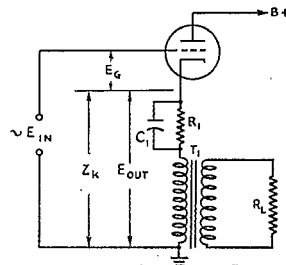
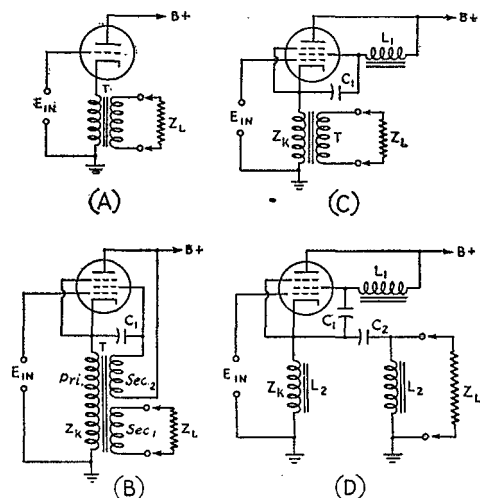
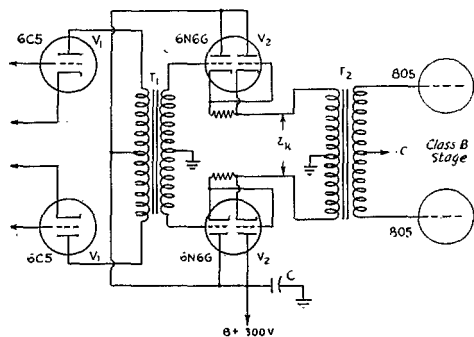

Fig. 1 — Triode cathode-follower power amplifier.
Fig. 2 — Single-ended stages with cathode coupling.
Fig. 4 — Cathode-coupled push-pull triode stage.
For an explanation of the amplifier characteristics referred to above, let's examine Fig. 1. This is the simplest type of cathode-follower power amplifier. In this circuit R_1 is used to supply additional bias since the d.c. resistance of the output transformer primary is generally too low to provide adequate bias. Condenser C_1 is of such a value that its reactance is negligible at the lowest frequency. If this is so, then the cathode impedance, Z_k , will be the primary impedance of the transformer T_1 . This impedance will, of course, be a complex impedance, but over the mid-frequency range may be considered as resistive. Assuming that a signal in the mid-frequency range is applied, on the positive half of the cycle the grid is driven positive which increases the plate current. This current flowing through the cathode impedance will produce a voltage drop making the cathode more positive with respect to ground. With respect to ground, the cathode and grid voltages are in phase. The effective driving voltage, however, is the voltage between the grid and cathode, labeled E_o , and, since E_{in} and E_{out} have the same polarity with respect to ground, they are effectively in series across the grid-to-
It is this feature which provides good frequency response with poor-quality transformers. For example, a common way of reducing the cost of a transformer is to reduce the number of turns. This results in lower inductance and poor low-frequency response. However, in the cathode-follower circuit, the decreasing impedance of the transformer primary with a decrease in frequency which results from the decreasing reactance of the primary inductance, causes the phase of the output voltage to change with respect to the input voltage. Thus the cancellation will be less and E_g will increase, causing the tube to be driven harder. For an explanation of the good-regulation feature, reference again is made to Fig. 1. With E_{in} constant, any tendency for E_{out} to rise, as might accompany the sudden removal of the load, would reduce E_g , and this in turn would reduce E_{out} , thus tending to stabilize the output voltage for any given input voltage, regardless of any decrease in load from full load. This regulation also can be seen from the formula for voltage gain of a triode cathode-follower. The voltage gain is
Thus far the discussion has been devoted to the use of triodes. Pentodes or beam tubes also may be used and are even superior to triodes. Their use requires an additional provision to keep the cathode and screen at the same a.c. potential so that true pentode operation may be secured. In a conventional amplifier the screen grid is bypassed to ground, as is usually the cathode. The screen therefore is maintained at a constant d.c. potential above the cathode but they are both at effective a.c. ground potential. The input signal then causes the plate voltage to vary up and down while the cathode and screen voltages remain fixed. In a cathode-follower circuit, however, the plate voltage remains constant and the cathode rises and falls in accordance with the input signal. Thus, if true pentode operation, and as a consequence full power output, is to be obtained, the screen grid must be made to rise and fall with the cathode. Two methods of accomplishing this are shown in Figs. 2 (B) and 2 (C). Fig. 2 (B) makes use of a special transformer, T , with a third winding, labeled Sec_2 . This winding has the same number of turns as the primary, $Pri.$, and is connected so that the screen and cathode voltages are in phase. It can be readily seen that if Sec_2 and $Pri.$ have the same number of turns, there will always be a fixed voltage difference between the screen and cathode. This voltage difference will be equal to the d.c. voltage applied to the screen. The condenser C_1 is added to make negligible any variation in the transformer construction and to insure zero phase difference between the two voltages. Its value should be large so that the reactance is small at the lowest frequency. In Fig. 2 (C) the same
Four types of single-ended cathode-follower power-amplifier circuits are shown in Fig. 2. No provision for d.c. bias is shown since this may be added in a similar manner to that shown in Fig. 1. Fig. 2 (A) uses a triode and has been fully covered in the foregoing discussion. Although Figs. 2 (B) and 2 (C) are shown using pentodes, the circuits are equally applicable to beam tubes. The difference between these two circuits is the manner in which true pentode operation is obtained. The gain and power output is the same for both. Since tube data usually give the transconductance instead of the μ for pentodes, the following formula is to be preferred in calculating the gain of single-ended pentode or beam-tube cathode-followers.
How this knowledge of the gain is made use of will be covered in more detail in the design section which follows. Fig. 2 (D) utilizes a single-section high-pass π filter as the coupling network. Again a pentode has been used for illustrative purposes, although a beam or triode tube might be used as desired. The gain is calculated from Eq. (4) and Z_k may be assumed to be equal to Z_L . In designing this coupling network, F_c , the cut-off frequency, is chosen to be slightly lower than the lowest frequency it is desired to pass, and the capacity of C_2 is given by
The push-pull versions of the circuits in Fig. 2 are shown in Figs. 4, 5, 6, and 7. Fig. 4 uses a pair of 6N6Gs to represent the triode-type of cathode-follower. The 6N6G actually is two triodes con-
The design procedure for the triode cathode-follower stage in Fig. 4 starts with the selection of the Class-B input transformer, T_2 . If the Class-B stage is assumed to be a pair of 805s, the peak load represented by their grids will be approximately 5000 ohms across half of the secondary, and since the correct load for the 6N6Gs is 10,000 ohms, plate to plate, a transformer with an impedance ratio, primary to one-half the secondary, of 2 to 1, or a turns ratio of 1.41 to 1, will be required. The tube manual supplies the information that the 6N6Gs will deliver 8 watts of power across this 10,000-ohm load. The peak voltage delivered across this load will be